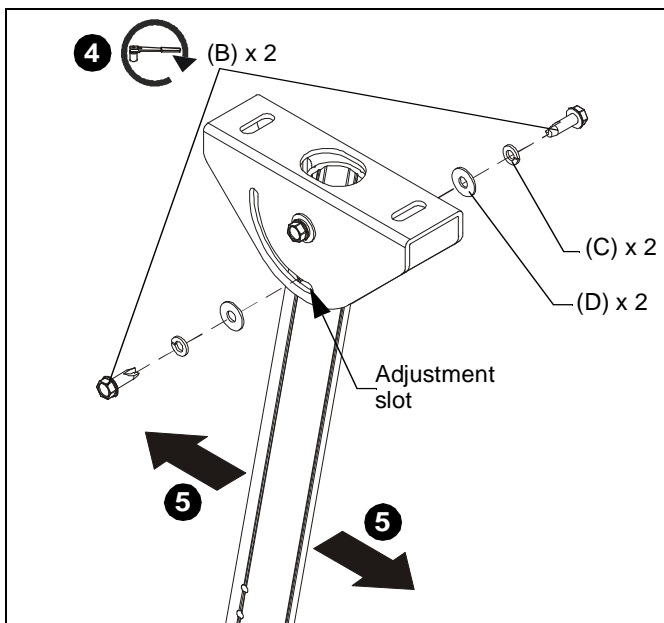

Figure 4
5. Adjust extension column to desired angle. (See Figure 4)
4. Finish loosely securing extension column to CPA395 using two 5/16-18 x 1" hex head self-tapping screws (B), two 5/16" split lock washers (C) and two 5/16" flat washers (D) through adjustment slot in CPA395 and into third hole on extension column. (See Figure 4)